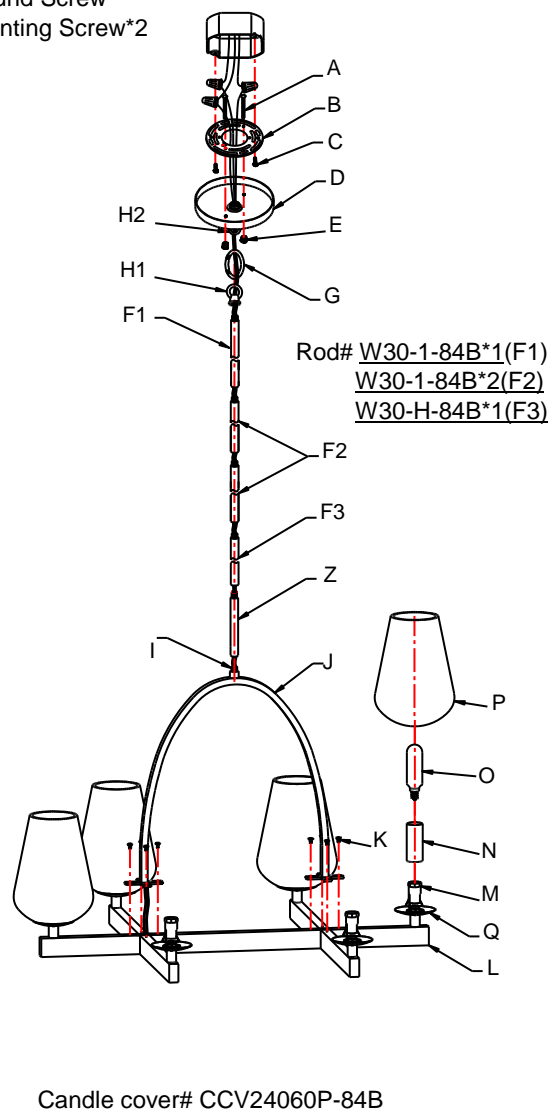

Fig. 2
CONNECTING THE WIRES (Fig. 2)
9. At this point, connect the electrical wires as shown in figure 2, making sure that all wire connectors are secured. If your outlet has a ground wire (green or bare copper), connect the fixture's ground wire to it. Otherwise, connect the fixture's ground wire directly to the circular strap using the green screw provided.